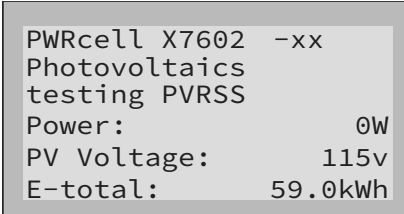

Figure 6-5. PVRSS Commissioning (4 of 4)
6. See Figure 6-5. The LCD will display Testing PRVSS during the testing process. Upon completion, the LCD will read Low Sun or Making Power, depending upon available PV voltage.